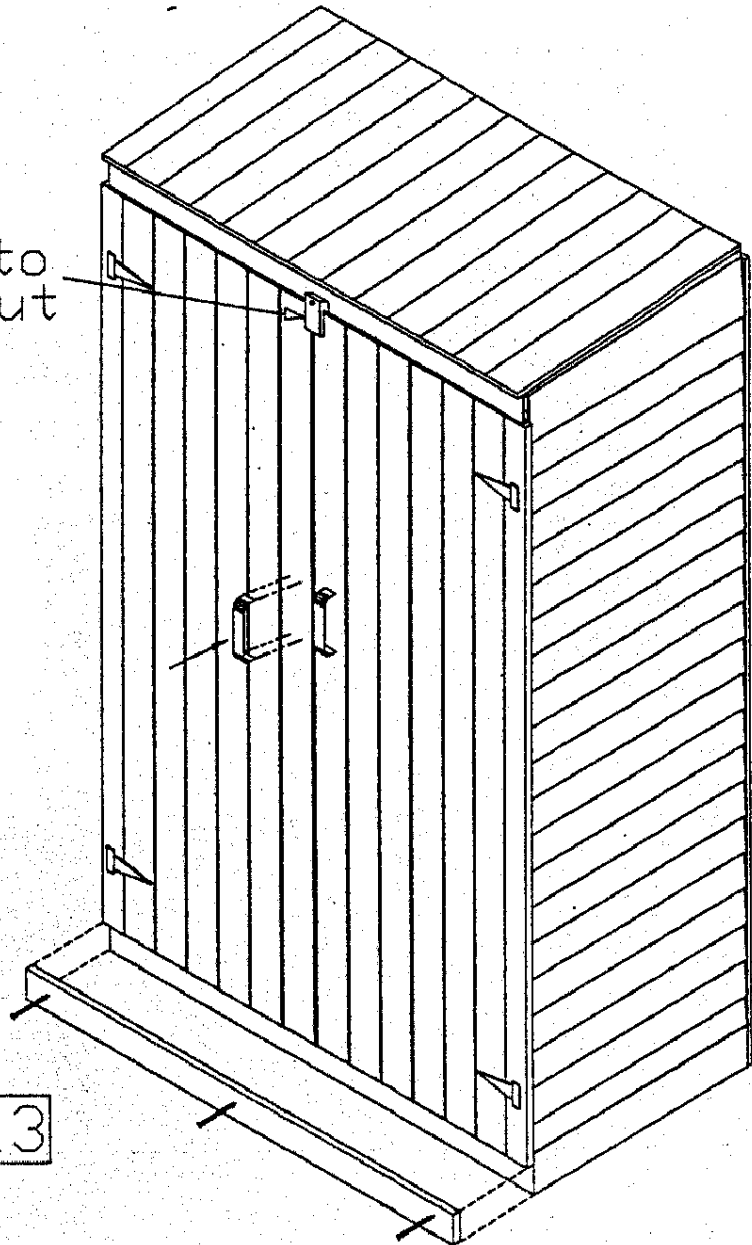

FIGURE 13
16. Place the front trim board onto the front of the floor panel and secure with 2" screws [Figure 13].
17. Finally, fasten the door handles in the desired location [Figure 13].